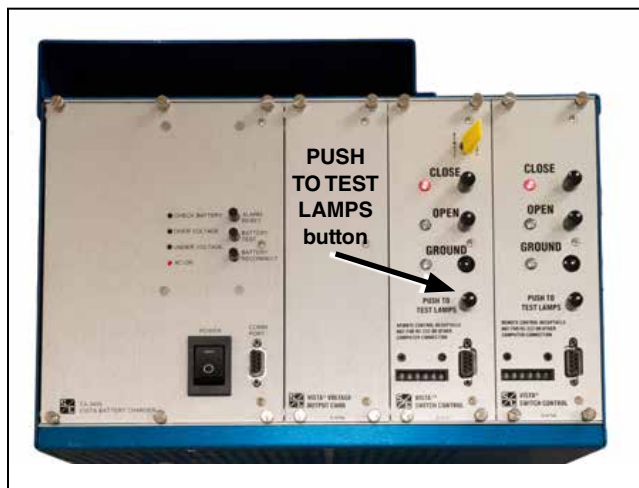

Figure 72. The PUSH TO TEST LAMPS button on the control board.
- STEP 2.** Verify all LEDs are functional by pressing the PUSH TO TEST LAMPS button on each control board. See Figure 72.